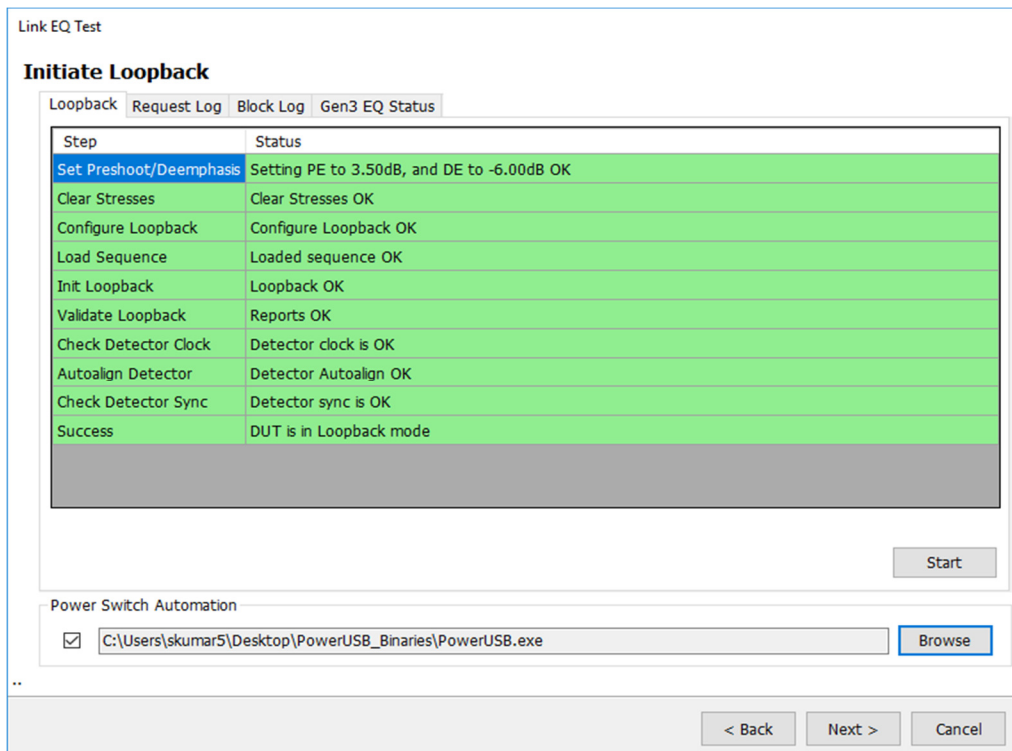

Figure 39
4. Enable the Power Switch Automation and load the Script .exe file which will Power ON the DUT during loopback as shown in Figure 39.